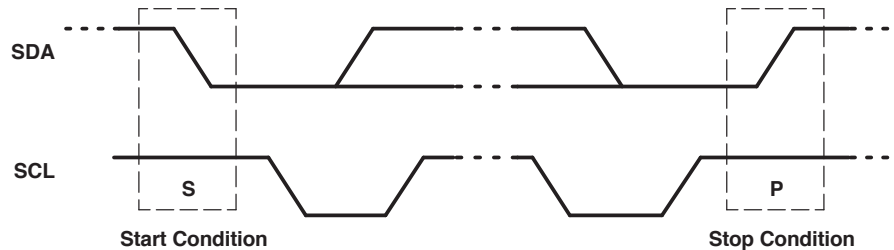

Figure 4. Definition of Start and Stop Conditions
Both data and clock lines remain high when the bus is not busy. A high-to-low transition of the data line while the clock is high is defined as the start condition (S). A low-to-high transition of the data line while the clock is high is defined as the stop condition (P) (see Figure 4).